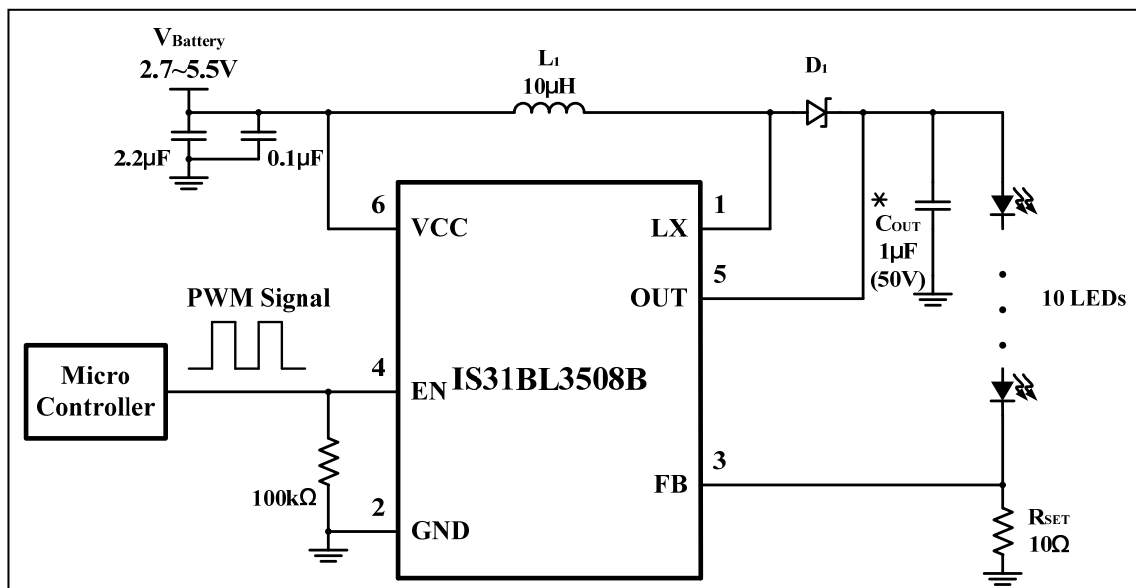

Figure 1 Constant current white LED driver using PWM at the EN pin to control intensity
The choice of the inductor value will affect the performance of the device. Large value inductors will reduce the current ripple in the inductor, thus reducing output voltage ripple. However large value inductors of the same current rating, typically also have larger DC resistance, thus reducing the system efficiency. For example in Figure 1, the loads are 10 WLEDs and output current is 20mA. The maximum input current can reach 300mA. For this application a 4.7µH or 10µH 400mA inductor is sufficient.
When the IS31BL3508B is used for LED driving applications (Figure 1), the LED current flows through the external feedback resistor R_{SET} to regulate the LED current. The internal feedback regulation point is 0.2V. The maximum LED current may be calculated by the following Equation (1).
The EN pin of the IS31BL3508B can accept a PWM signal to implement LED dimming (Figure 1). LED current may be computed using the following Equation (2).